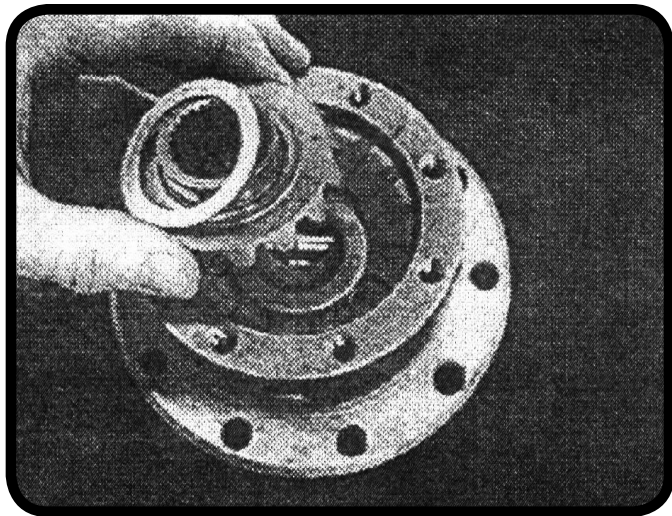

Figure 12
8. Place the other side gear (the one that formerly was in the bottom of the case) onto the top driver with the teeth meshed and then place the second thrust washer on it (**Figure 12**). The smoothest side of the washer is placed next to the gear.